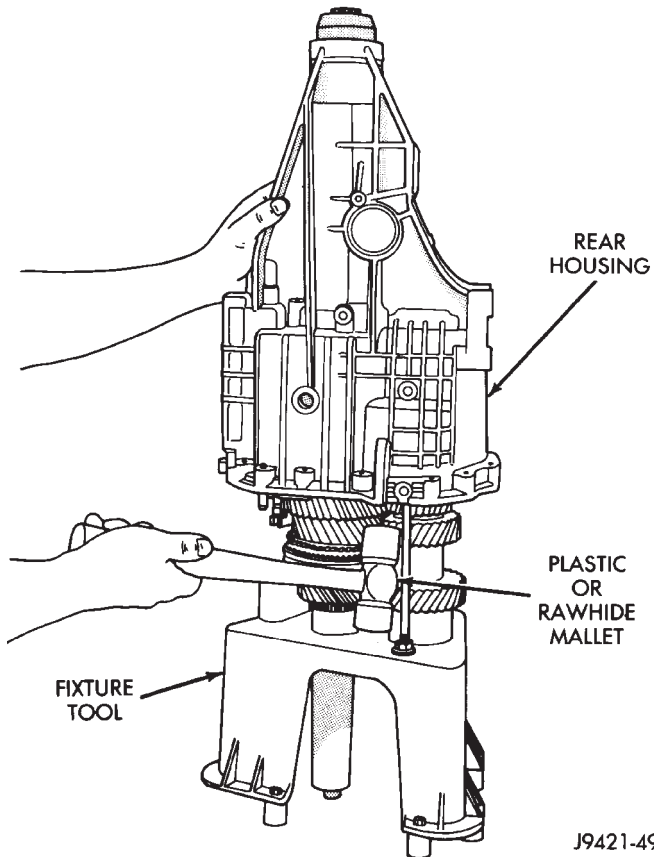

Fig. 30 Unseating Rear Housing From Output Shaft Bearing—2WD
- (2) Unseat output shaft bearing from bearing bore in rear housing. Use plastic or rawhide mallet to tap rear housing upward and off output shaft bearing as shown (Fig. 30).